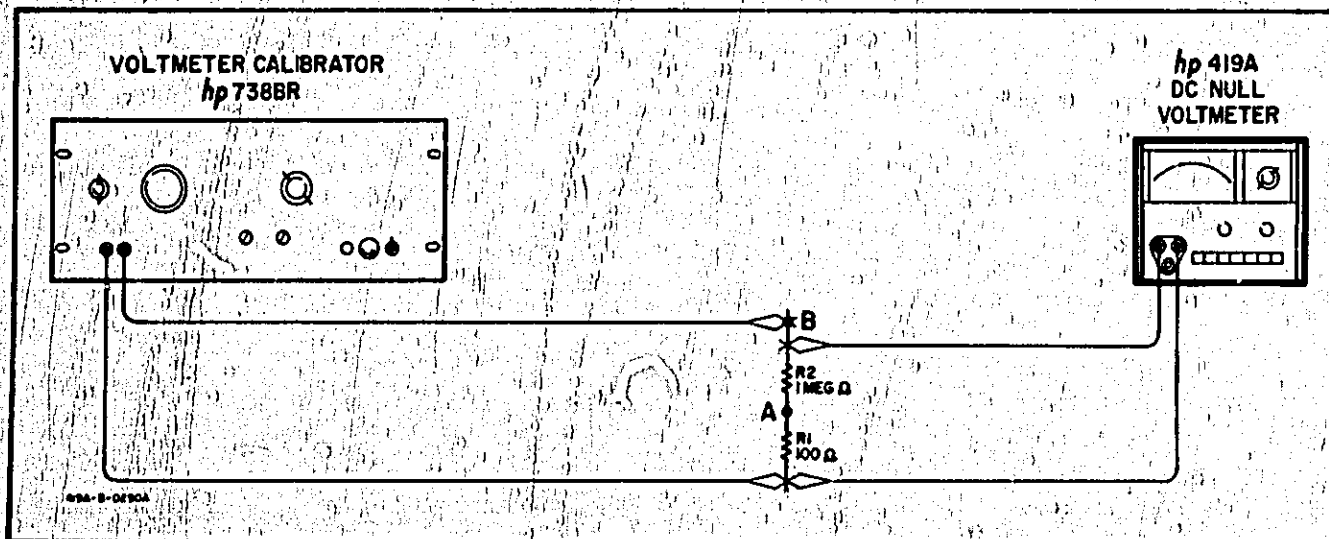

Figure 5-1. Voltmeter Accuracy Performance Test Setup
5-8. The voltmeter accuracy performance test setup is illustrated in Figure 5-1. A voltmeter calibrator (-hp- Model 738BR), a 100 Ω resistor (-hp- Part No. 0811-0398), and a 1 MΩ resistor (-hp- Part No. 0811-0473) are required for this test.
- a. Connect test setup illustrated in Figure 5-1.
- Construct test setup illustrated in Figure 5-1; turn voltmeter calibrator dc output off and set for 30 mV output; connect 419A + INPUT terminal to Point A.